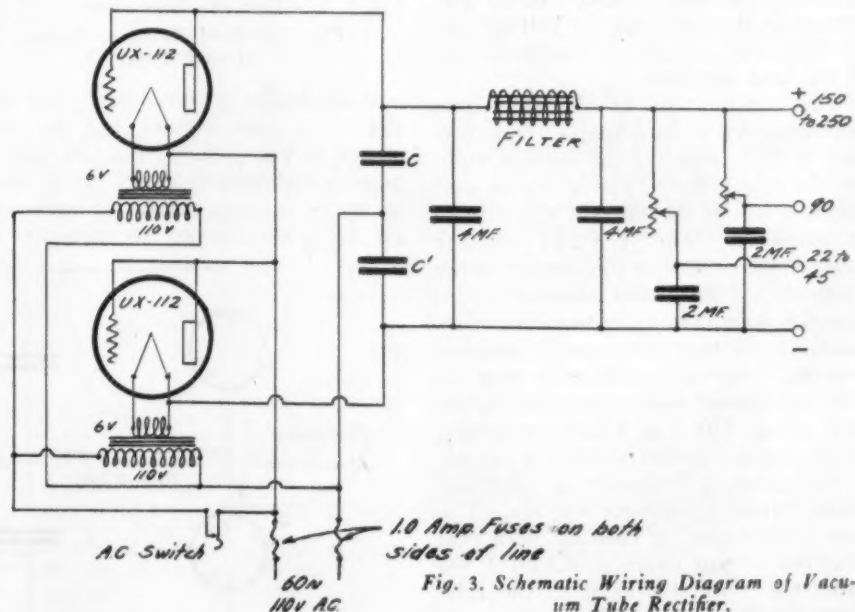

Fig. 3. Schematic Wiring Diagram of Vacuum Tube Rectifier.
- Necessary Bradleymo and 2 mfd. condensers according to battery taps required. See Fig. 3.
Fig. 3 shows schematically the layout of the current supply set as finally arranged. It will be noted that separate transformers were used for lighting the filaments of the rectifier tubes. This is necessary, as were a single transformer used, one of the rectifiers would be shorted out. The transformer T shown in Fig. 1 was not used, the 110 volts being taken directly from the house supply.
The general appearance of the B eliminator is shown in the picture. Lay out the apparatus on a baseboard approximately 8x12 in. keeping the rectifier tubes, filament transformers and set shown is a good combination to use, for B supply lead when voltages lower than the UX-112 or UX-216-B tubes. Bradleyohms should be placed in the positive 150 are desired, as shown in Fig. 3. These resistances should be adjusted until the proper voltage is applied to the tubes, which may be determined best with a high resistance voltmeter. If one is not obtainable, and the set with which the eliminator is to be used is now operating of by-pass condensers in one group, and the filter at the other end of the board. If desired, the outfit can be mounted on a panel, so that the adjustments of the Bradleyohms may be more easily made. As the voltages in various parts of the circuit run as high as 250 volts, it would be preferable to wire the parts together with insulated lamp cord, but bus bar wire may be used if it is well insulated with spaghetti.